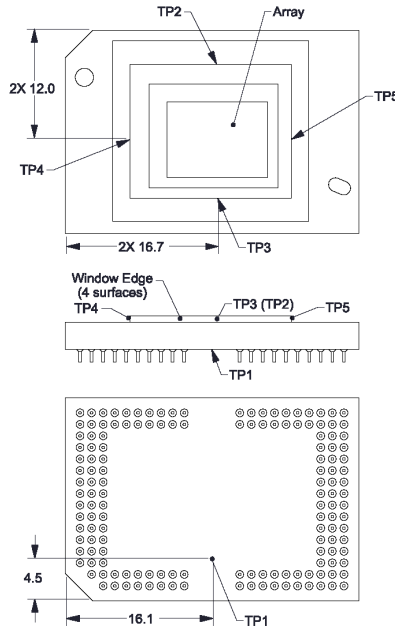

图 7-4. Thermal Test Point Location
Achieving optimal DMD performance requires proper management of the maximum DMD case temperature, the maximum temperature of any individual micromirror in the active array, the maximum temperature of the window aperture, and the temperature gradient between the case temperature and the predicted micromirror array temperature (see 图 7-4).
The DMD is designed to conduct absorbed and dissipated heat to the back of the Series 450 package where it can be removed by an appropriate heat sink. The heat sink and cooling system must be capable of maintaining the package within the specified operational temperatures, refer to 图 7-4. The total heat load on the DMD is typically driven by the incident light absorbed by the active area; although other contributions include light energy absorbed by the window aperture and electrical power dissipation of the array.
The temperature of the DMD case can be measured directly. For consistency, Thermal Test Point locations TP1 – TP5 are defined, as shown in 图 7-4.
Micromirror array temperature cannot be measured directly; therefore it must be computed analytically from measurement points (图 7-4), the package thermal resistance, the electrical power, and the illumination heat load. The relationship between micromirror array temperature and the case temperature are provided by 方程式 1 and 方程式 2:
- $T_{\text{Ceramic}}$  = Ceramic temperature (°C) (TC2 Location 图 7-4)